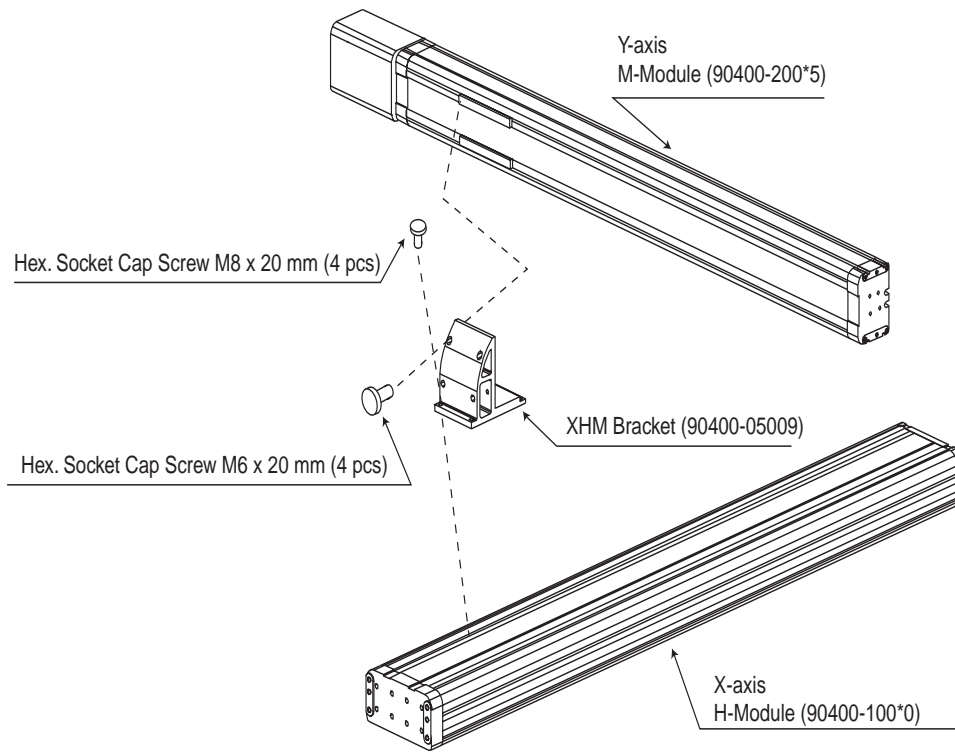

Figure 4-54. X-2 Type Mechanical Assembly
4. Mate the Y-axis to combining bracket by aligning the motor-side pin holes on the Y-axis module to the pins on the side of the bracket (these holes are on the side opposite the sliders). Carefully mate the pins and pin holes to avoid damaging the pins. Install the mounting bolts (see Figure 4-54).